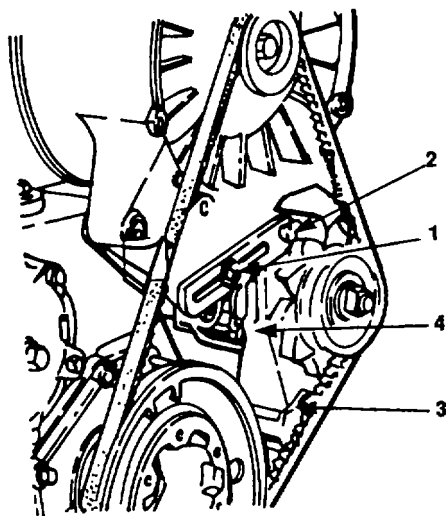

Figure 3-42. Alternator
- e. Remove bolts (1, 2 and 3, figure 3-42) and remove alternator from engine.